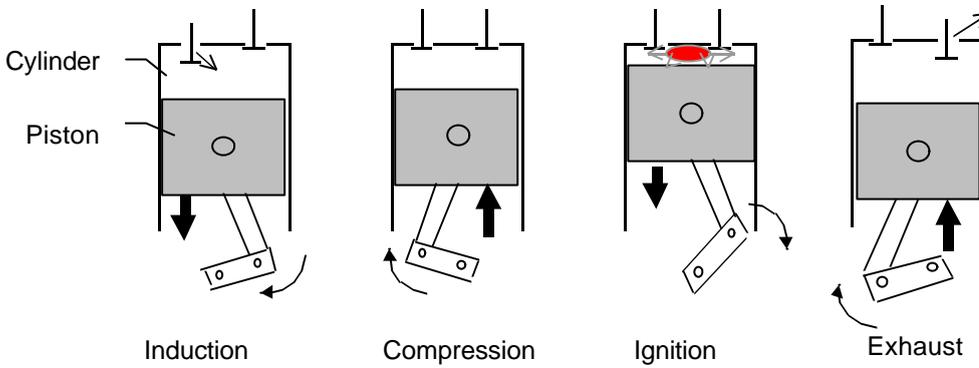

Figure 2. The four-stroke Diesel cycle
**The four stroke cycle - diesel engine (refer to Figure 2)**